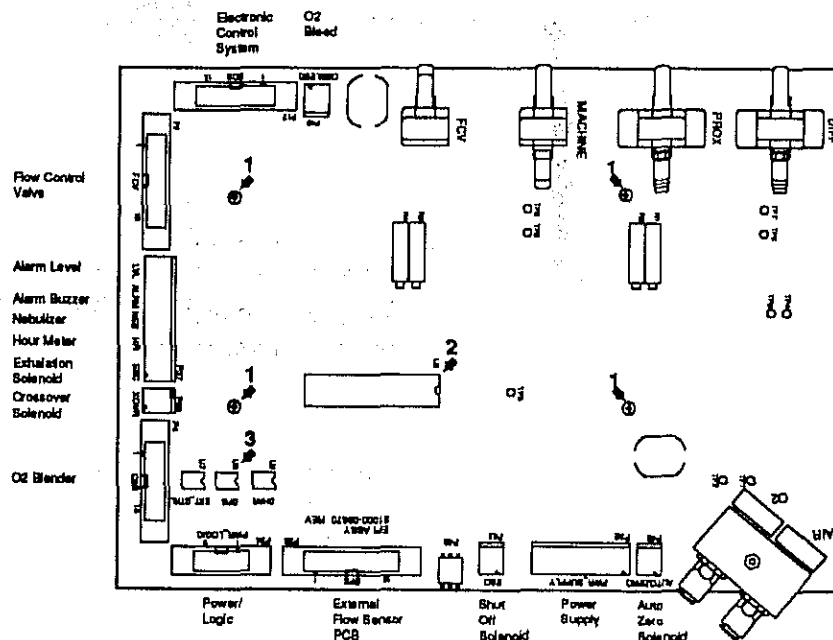

Figure 8-2
4. Remove the four mounting screws from the EPI PCB (Figure 8-2, Ref. 1).
5. Remove the MPU, U8 (Figure 8-2, Ref. 2), and the CFG EPROM, U6, (Figure 8-2, Ref. 3), and place them in the replacement EPI PCB, being sure of proper orientation.